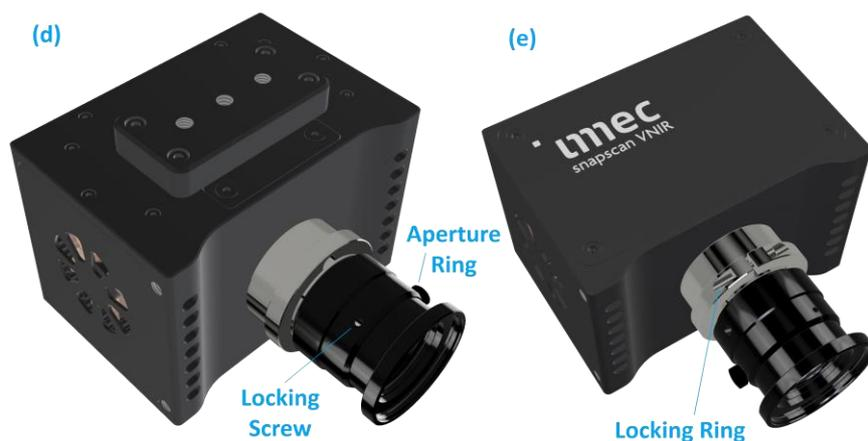

Figure 35 Focusing and setting the aperture of the lens
Step 5.1 Mount a lens on the snapscan camera (Figure 34, Figure 35)